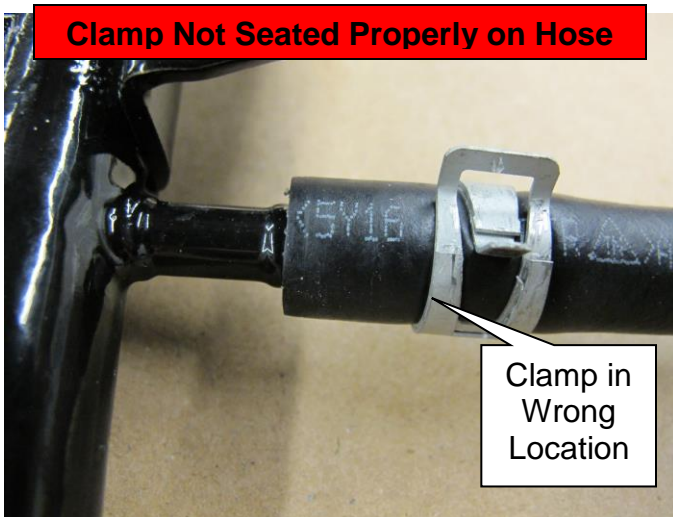

Figure 15
- Clamp not seated properly on hose (Too close to barb lip) (Figure 15).